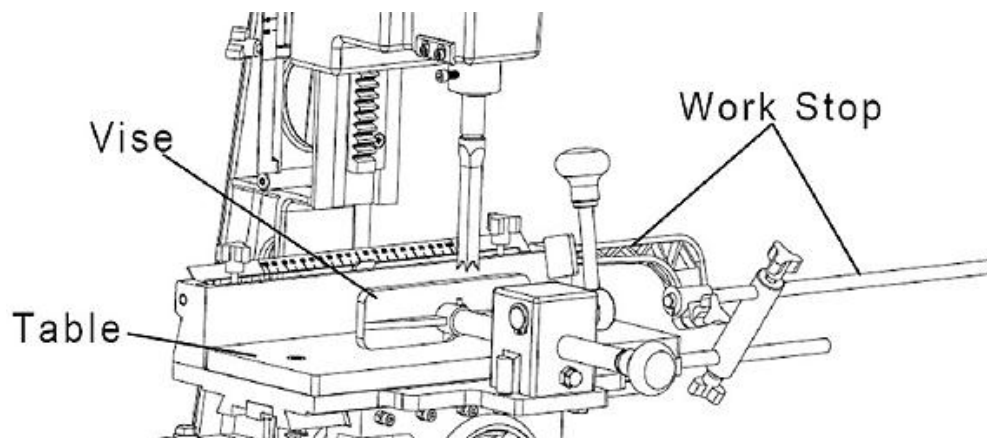

Fig 11
4. Adjust the table stops, Figure 11, according to the length of cut required, and then tighten the thumb screws.